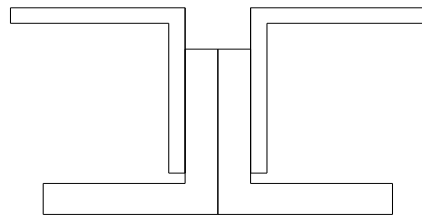

Fig. 1
- Use 2 - L2x2x3/8" angles 4" long are welded back-to-back to form a 2 1/2" deep seat as shown in Fig. 1, or